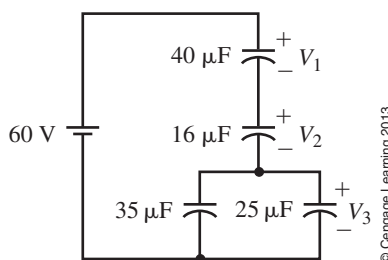

FIGURE 10-39
39. Repeat Problem 38 for the circuit of Figure 10-39.